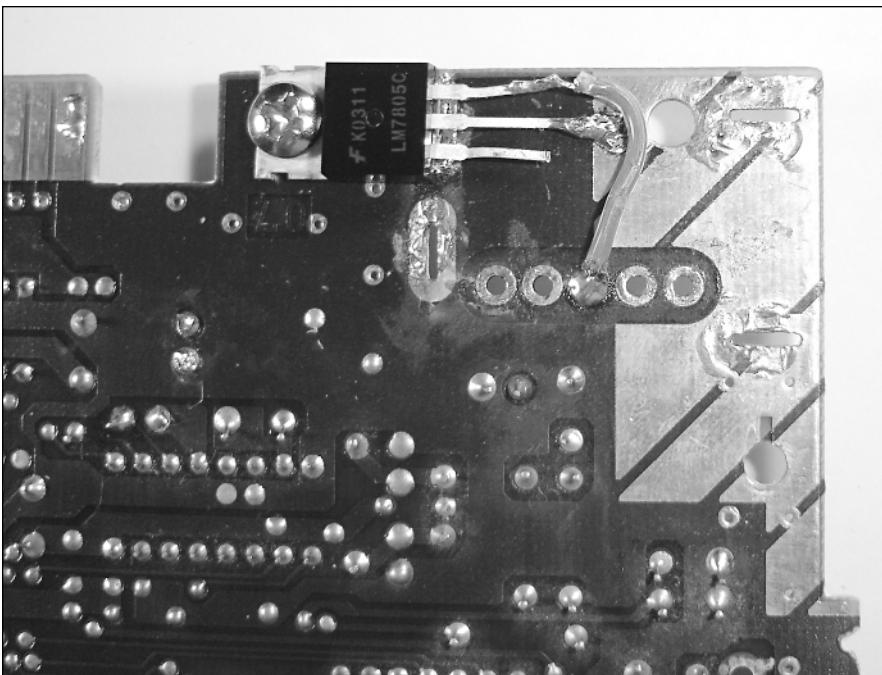

FIGURE 8-18: How to attach the 7805 regulator to the NES board.
2. Now let's attach the 7805 power regulator to the NES board. As described in Chapter 3, this takes the unregulated 7.2-volt input from the battery and knocks it down to what the NES needs to run, in this case 5 volts. Using a computer case screw and a size-6 nut, attach the 7805 regulator to the existing screw hole near where the RF box used to be, as seen in Figure 8-18.
3. Run a thick, solid wire from the top lead on the 7805 to the center spot of the five connections shown in Figure 8-18. This is *power IN to the NES*. Then solder the center lead of the regulator directly to the metal on the NES board — this is *GROUND*. We'll connect more things to this area later on.